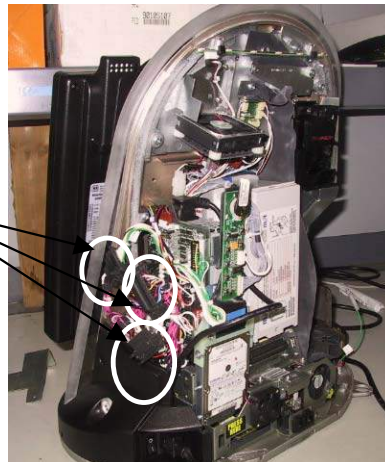
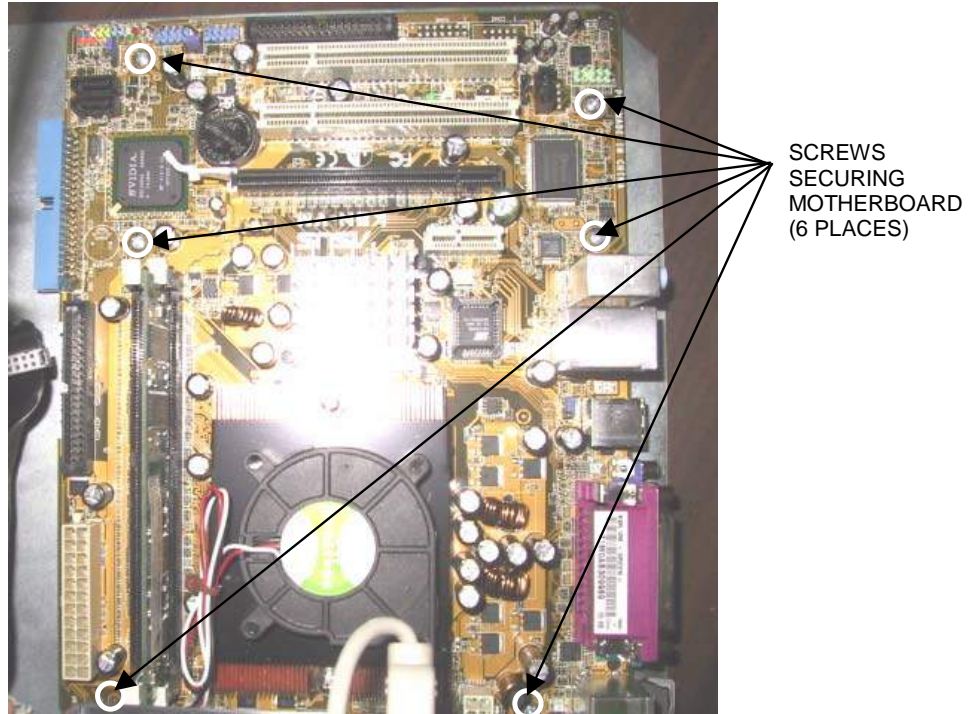
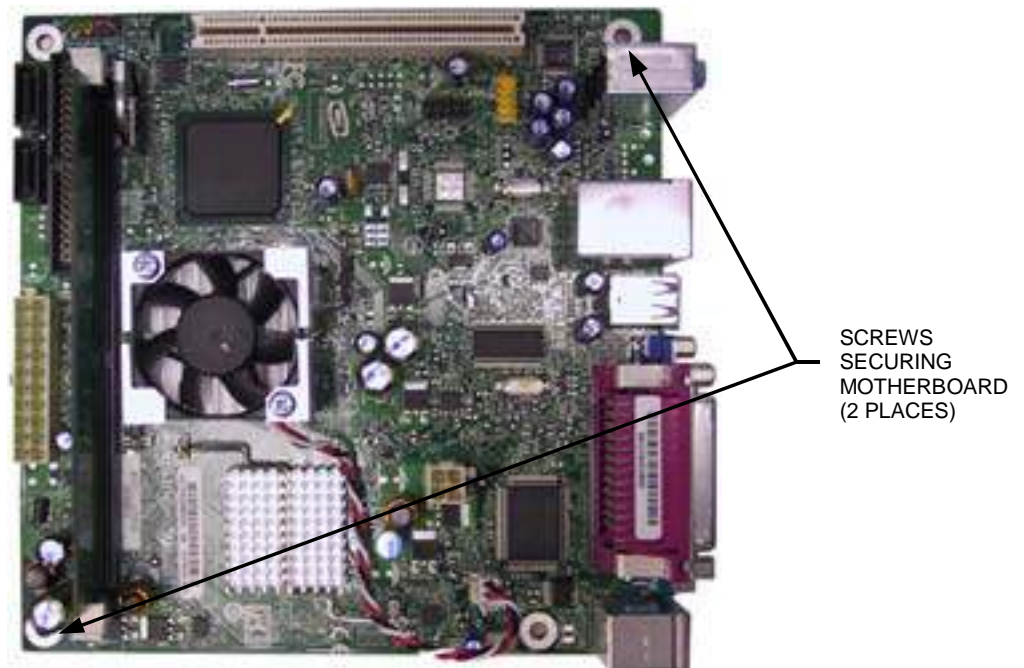

FIGURE 5 - REAR VIEW OF GAME
FIGURE 6 - SCREWS SECURING MOTHERBOARD TO GAME
FIGURE 7 - SCREWS SECURING MOTHERBOARD TO GAME
7. If applicable, disconnect the three black connectors (10-, 11- and 12-pin) connecting the electronics tray to the game in order to slide the tray out further (see Figure 5). If your game does not have these connectors, the harness is long enough to remove the tray.
8. Move the hard drive/power supply tower out of the way of the motherboard by tilting it on its hinge 90 degrees to the left and supporting (if necessary). Remove all motherboard connections, noting their positions, and unscrew the motherboard in 6 places on a standard Aurora (see Figure 6), or in 2 places on an Aurora Widescreen (see Figure 7). Remove the motherboard from the tray.
1. Situate the new motherboard on top of the fish paper, and secure to the electronics tray with 6 screws in a standard Aurora (see Figure 6) or 2 screws in an Aurora Widescreen (see Figure 7).
2. Restore all motherboard connections. Restore the hard drive/power supply tower to its upright position, and slide the electronics tray back into place, making sure that the connectors on the back of the hard drive bracket click into the connectors on the wall of the game, if applicable (see Figure 7). If you disconnected three connectors from the electronics tray to the game (see Figure 5), reconnect them. Secure the tray by screwing in the thumbscrew. See Figure 4.